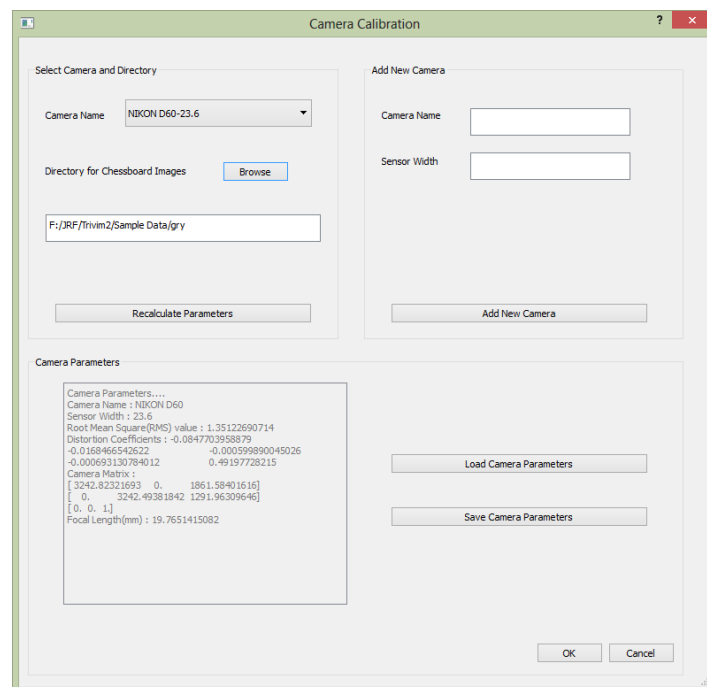

Fig 6: Camera Calibration Results
- k) Once the process is finished, results are displayed in the *Camera Parameters* tab (Fig 6). If the results are not satisfactory then click on *Recalculate Parameters* to perform the camera calibration again. (*If required, camera name and chessboard image directory can be chosen again*)